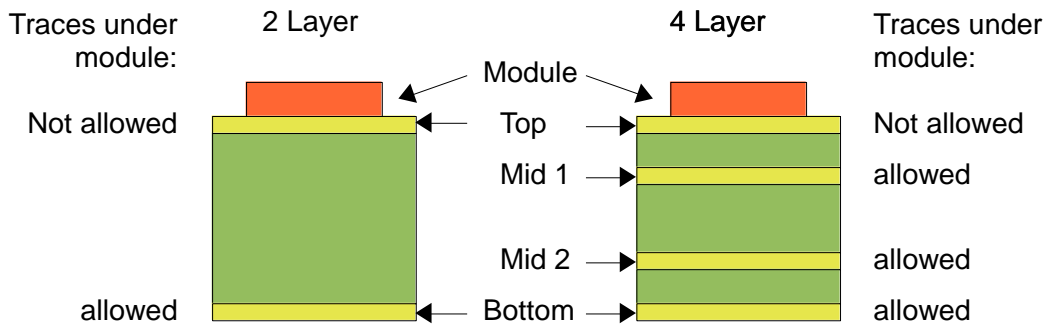

Figure 11-2: Layer design of 2 and 4 layer boards
- Traces on top layer are not allowed under the module (see **Figure 11-2**)
- Traces on mid layers and bottom layers are allowed (see **Figure 11-2**)